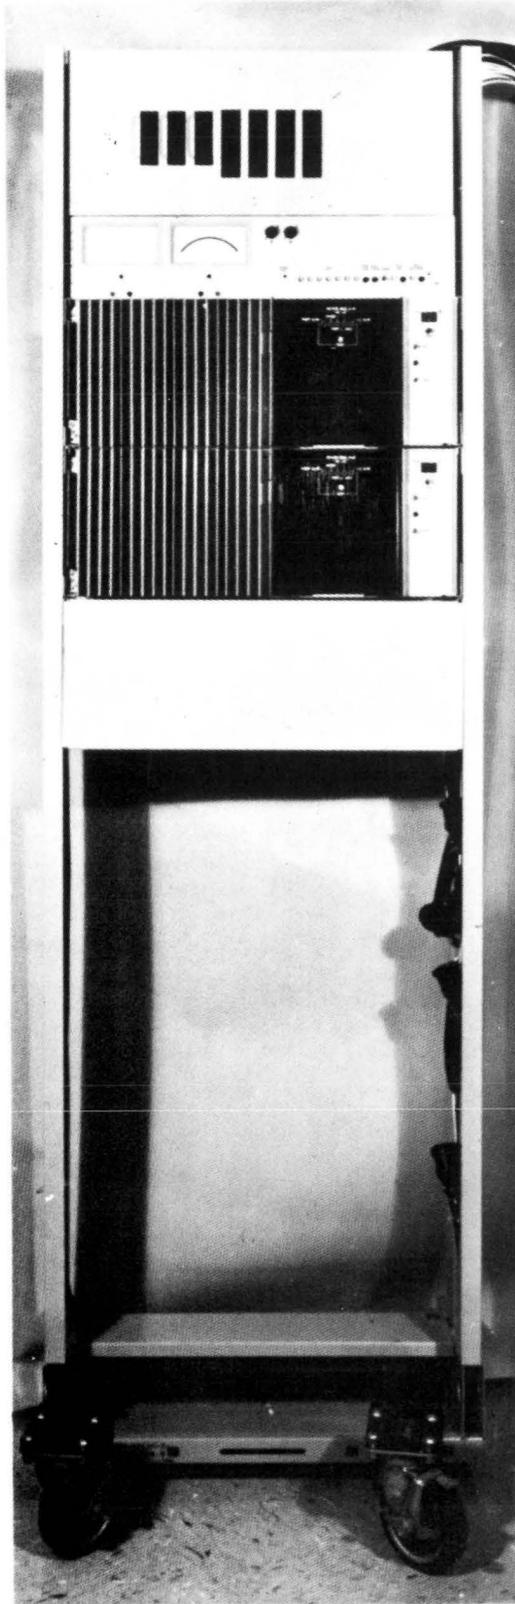

Fig 1—J86922A Converter Frame
1.17 The J86922A Converter Frame, Fig 1, uses a standard uniframe measuring 7 feet high, 26 inches wide and 12 inches deep. The top 13 inches contain the plant control printed wiring board, circuit breakers, meters and bus bars. The remaining portion of the frame provides space for a minimum of two and a maximum of seven J87456A converters.